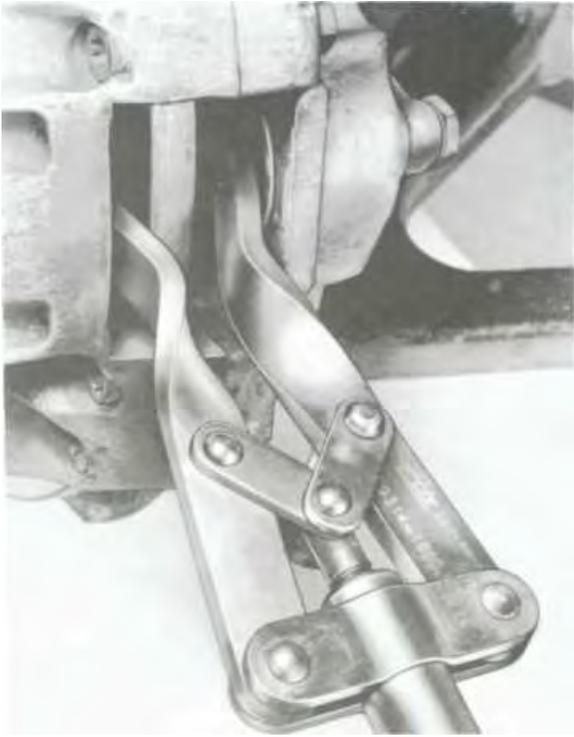

Fig. 21
6. Push pistons fully back with the aid of the P 83 piston depressor; if not available, a hard-wood block may be used instead. Do not use other tools due to the possibility of damaging the piston or brake disc (see Fig. 21).